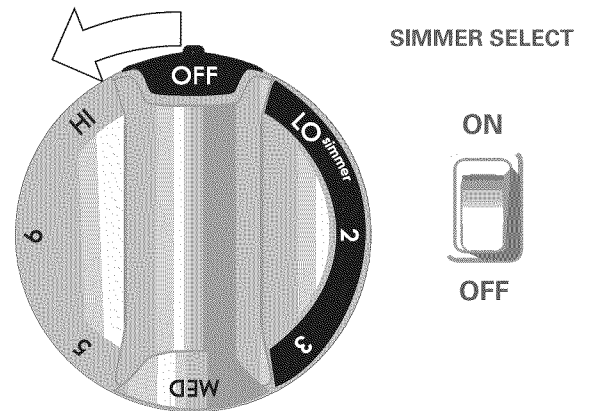

Figure 5
3. Turn the surface control knob to the desired simmer setting within the dark band on the control knob. Use the marks as a guide and adjust the control knob as needed (see Figure 5).